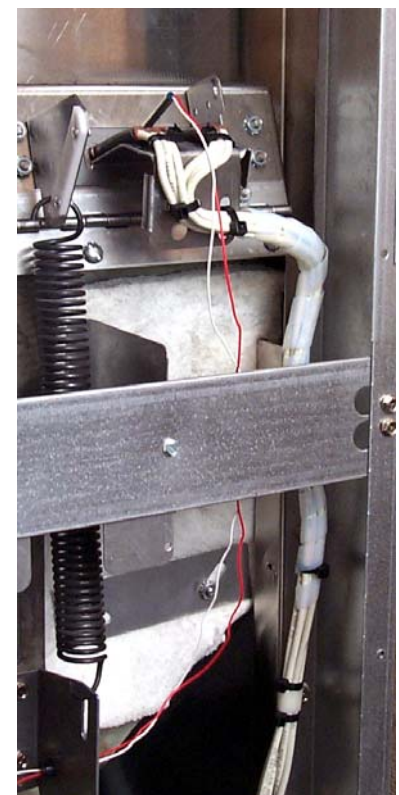

Figure 11: Route the element wires as shown and cover with spiral wrap from the bracket's edge to below the hi-limit. See wire-routing diagram on page 10.
13. Route the wires as shown in Fig. 11 and 14. Ensure the wires cannot touch the back of the fryer when the tilt-plate is moved. Also, ensure that the probe wires are not bundled with the element wires (see Fig. 11).